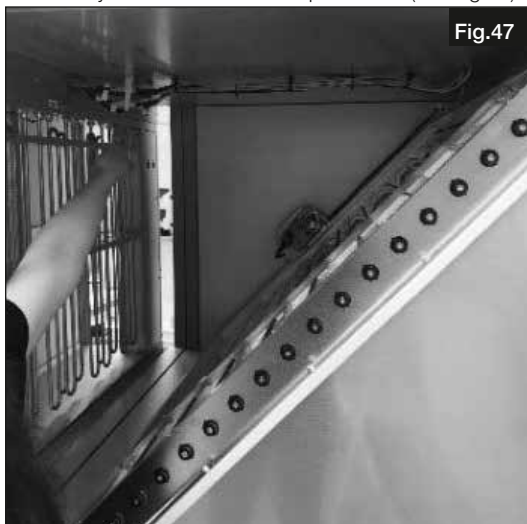

Fig.47
3. Carefully remove the electrical pre-heater (see Fig.47).